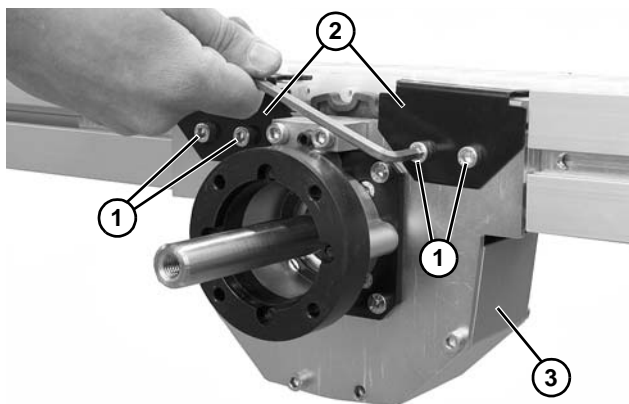

Figure 140
4. Remove four socket head screws (Figure 140, item 1) securing belt hold down tabs (Figure 140, item 2) to drive assembly (Figure 140, item 3).